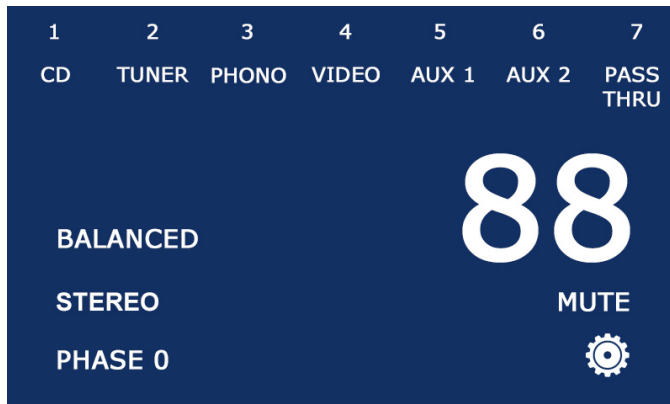

fig. 6
**Input Selection:** To change inputs, touch the currently displayed input name on the screen. The input bar will appear, listing all seven input options. Touch the desired input to change (fig. 6).